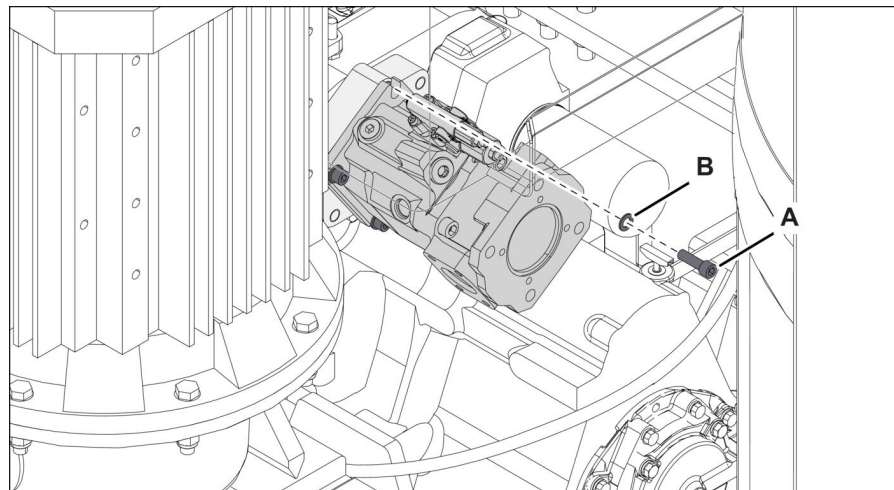

Figure 15
4. Insert the screws (Figure 15, item A) and the washers (item B) to attach the steering positioning pump to the transmission.